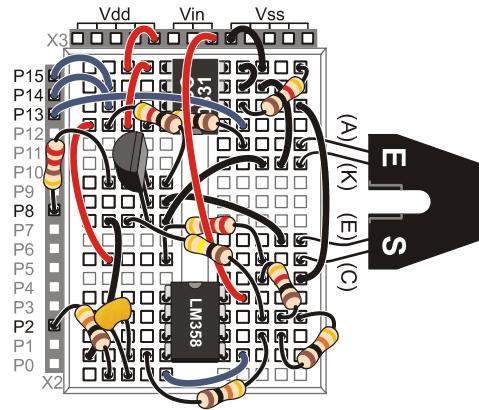

Figure 5-19
- (1) 4.7 k Ω Resistor
- (2) 1 k Ω Resistors
- √ Reconfigure the op-amp as shown in Figure 5-19. Set the 4.7 k Ω resistor aside for the moment.